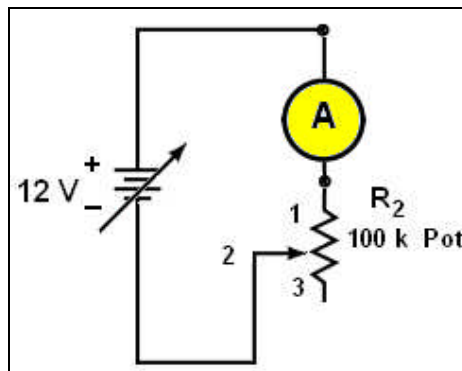

Fig. 1-3 Resistor Circuit for Steps 14
14. If the meter has current scales, construct the circuit shown in Fig. 1-3.